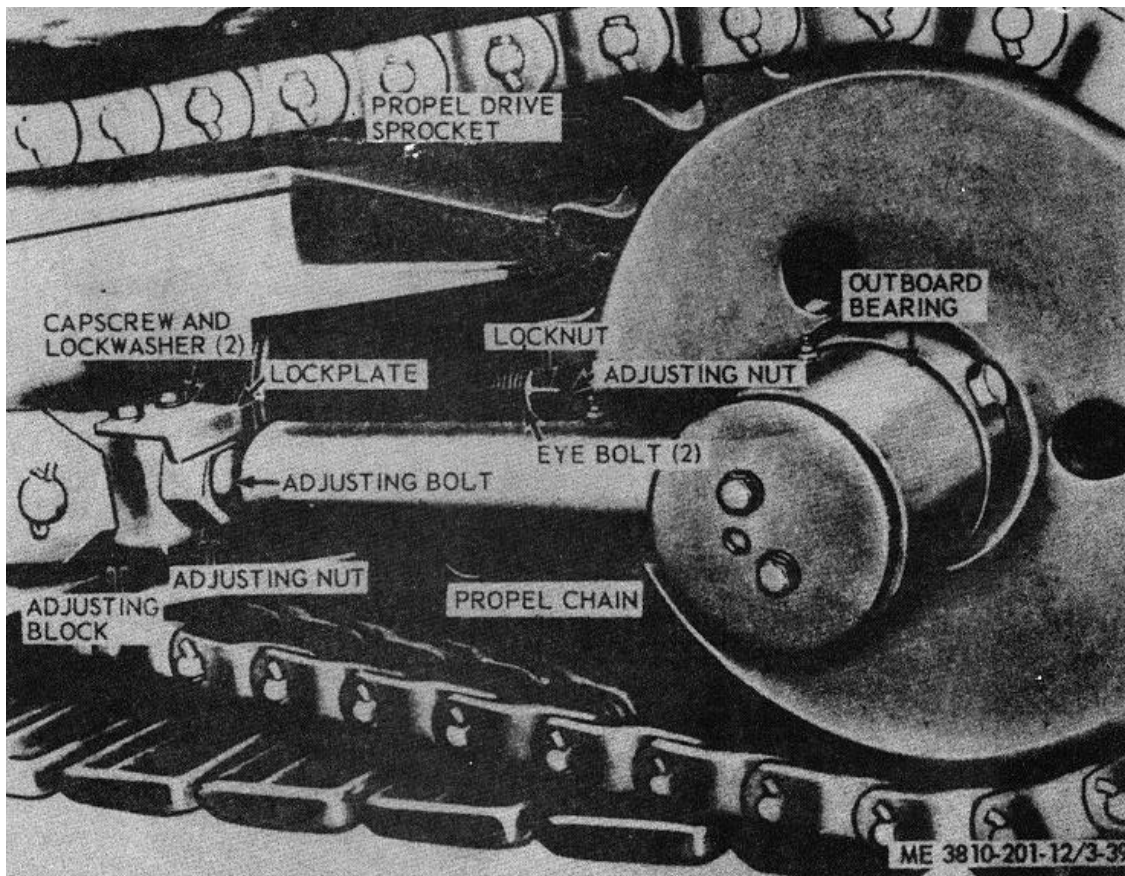

Figure 3-31. Propel chain adjustment.
(1) Backoff locknuts on two eyebolts (fig. 3-31) (one on each side of sprocket) then, alternately turn adjusting nuts, first on outside then on inside, in or out until slack in propel chain can be raised approximately 1½ inches. Repeat on opposite side of frame for remaining propel chain. When adjustment is correct, tighten locknuts to secure adjustment.